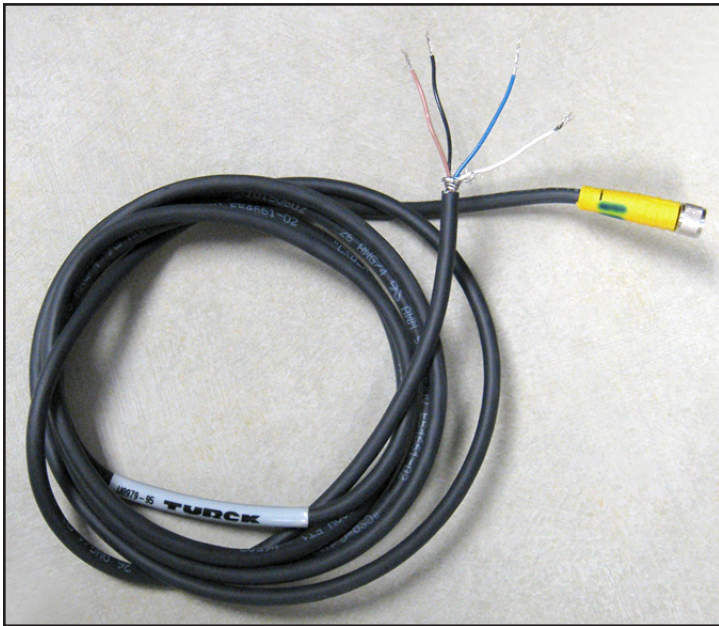

Figure 26: Four-Wire, IQ.probe Cable
1. Insert the end of probe cable (see *Figure 26* below) with the connector onto the probe and twist the connector head clockwise until it is secure.